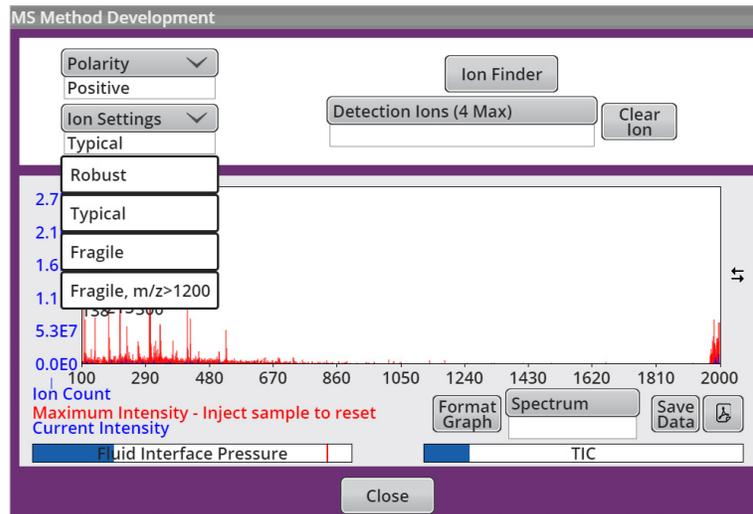

Figure 3-12 Selecting ion settings
- If your compound isn't detected, you can adjust the ionization settings by selecting from the drop down menu (Figure 3-12). The factory selections include: